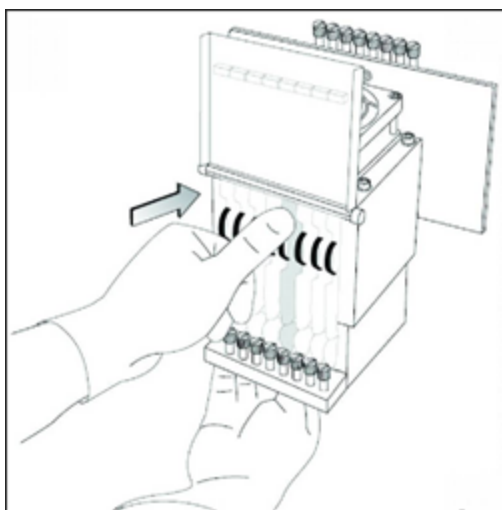

Figure 6-81 Inserting the print-head driver card into its socket
- b. Re-insert the print-head driver card into its socket (see Figure 6-81 on page 6-60).